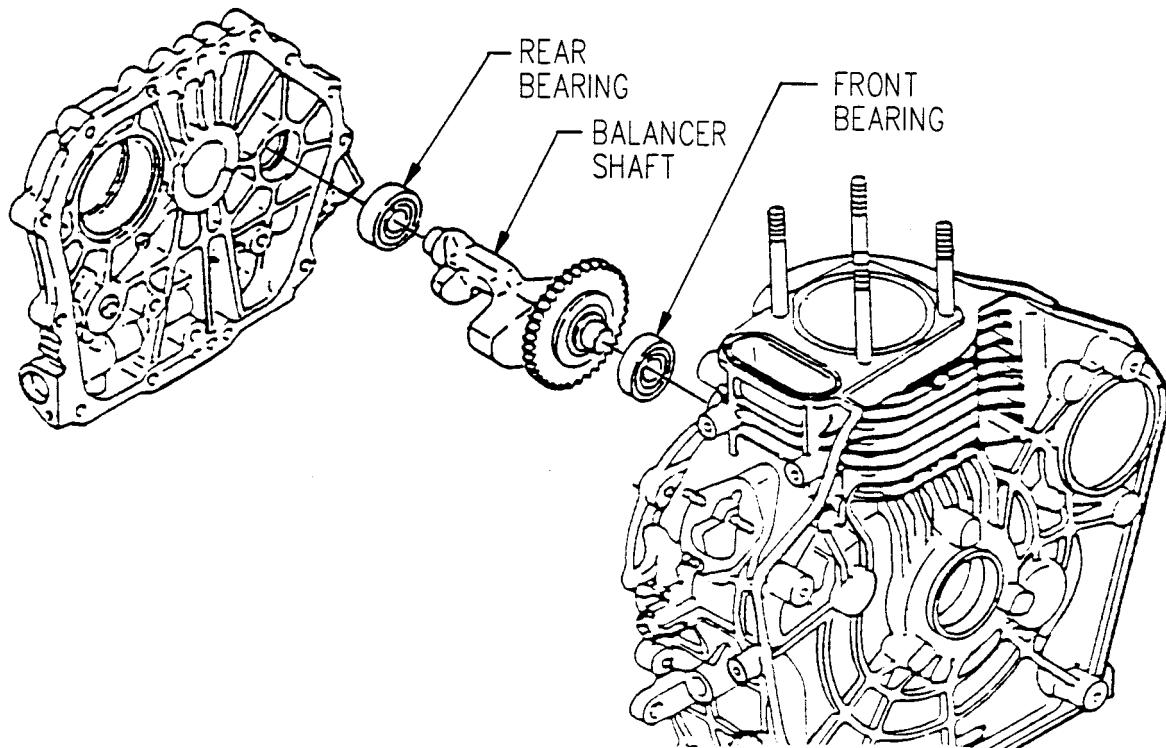

Figure 5-20 Balancer Shaft
- (1) Shut down generator set.
- (2) Remove crankcase cover, refer to paragraph 5.16.a.
- (3) Remove balancer shaft (Figure 5-20) from cylinder block.
- (4) If necessary, remove rear bearing from crankcase cover.
- (5) If necessary, remove front bearing from cylinder block.
- (1) If removed, install front bearing (Figure 5-20) in cylinder block so bearing is flush with surface of block.